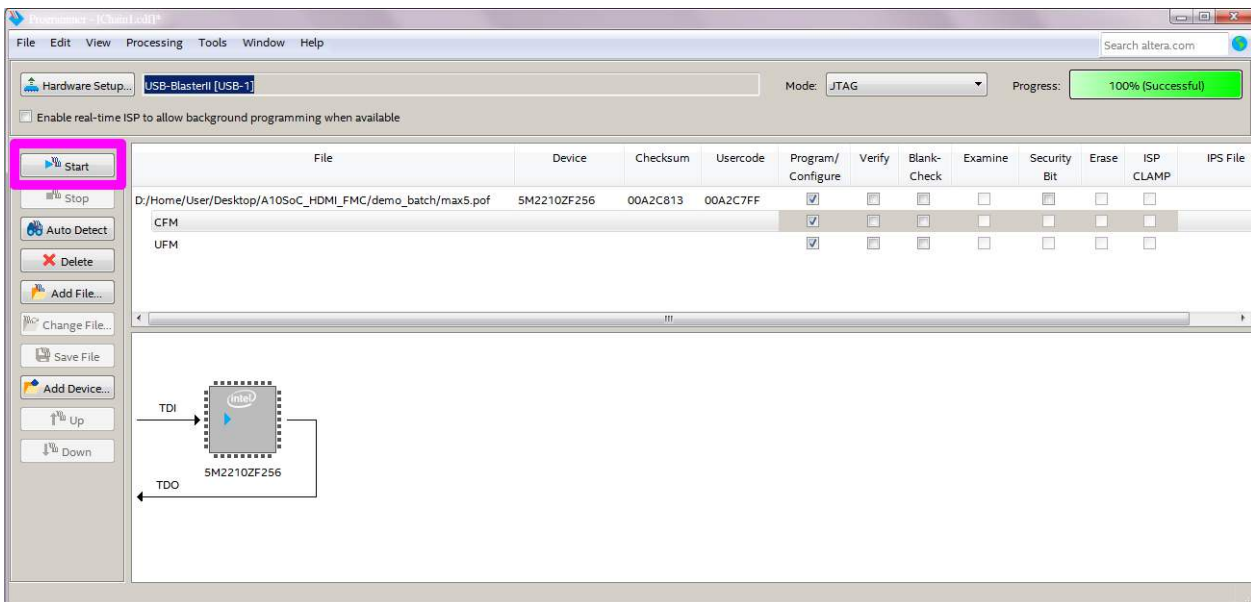

Figure 4-11 Program the max5.pof
- Click Start button to program as shown in **Figure 4-11**.